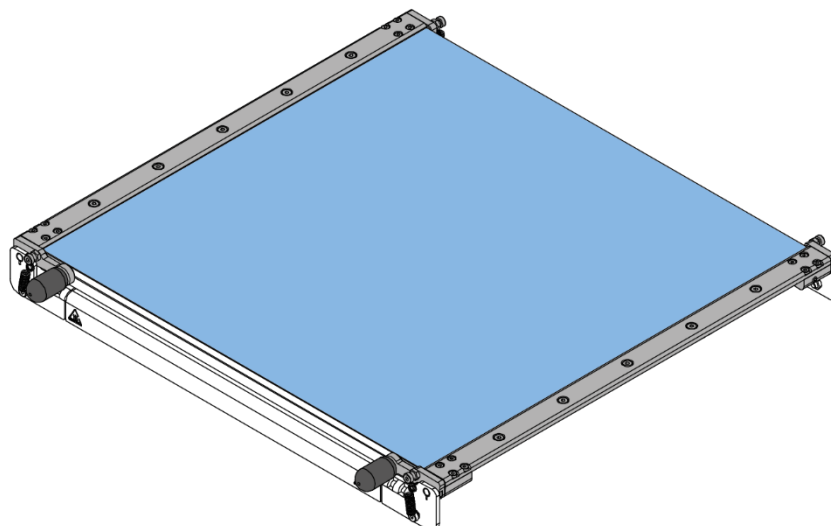

Fig. 73 Build plate installation – close clamps with handles
9. Using the handles (Fig. 73, black), close the side locks (Fig. 73, grey).